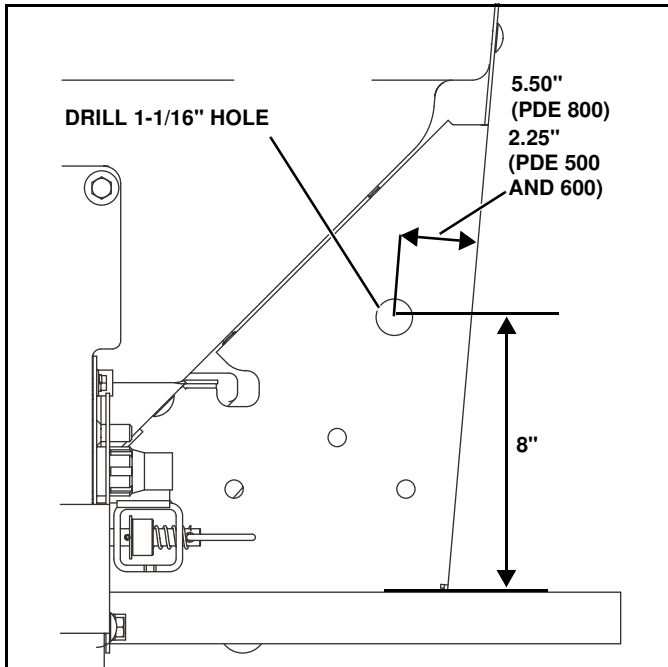

Figure 1-6
2. Check the rear passenger support leg of the spreader, in front of the SWS pump, for a 1-1/16" hole. If the hole already exists, skip to the next step. If the hole is not there, it will need to be drilled. Use the measurements from See Figure 1-6 to locate the hole. Center punch, drill a 1/4" pilot hole, then work up to 1-1/16" diameter.